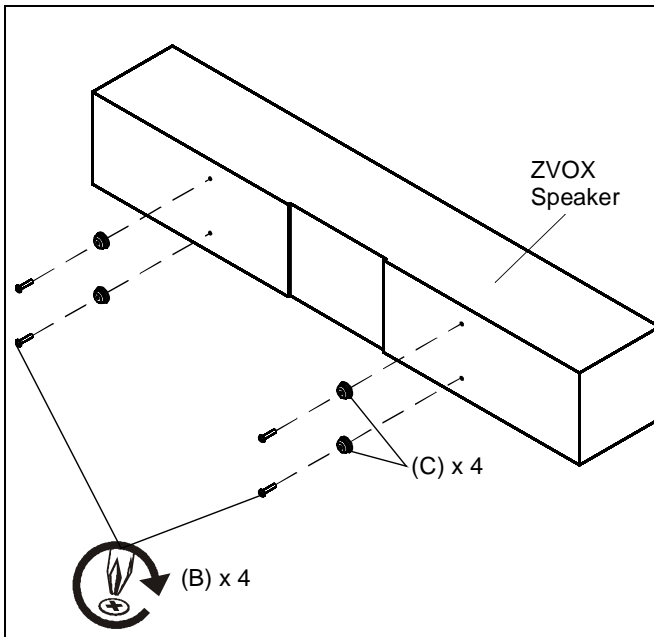

Figure 1
1. Attach four mounting buttons (C) through the upper and lower holes in speaker using four 1/4-20 x 1" Phillips head screws (B). (See Figure 1)